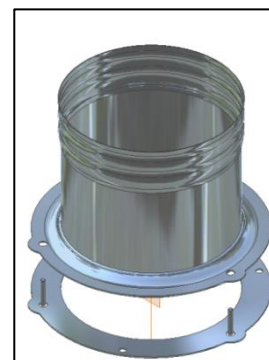

Figure 3-8: 6CON Liner Connector
The Astra 32 fireplace can be connected to a masonry chimney that complies with current national and municipal building codes. A 6 inch chimney liner that complies with ULC S635 M2000 (Canada) or UL 1777 (US) standards must be installed within the existing masonry chimney. Note that the 6CON connector (manufactured by SUPREME FIREPLACES INC.) must be installed to connect the prefabricated chimney to the liner (6CON sold separately). Refer to figure 3-8.